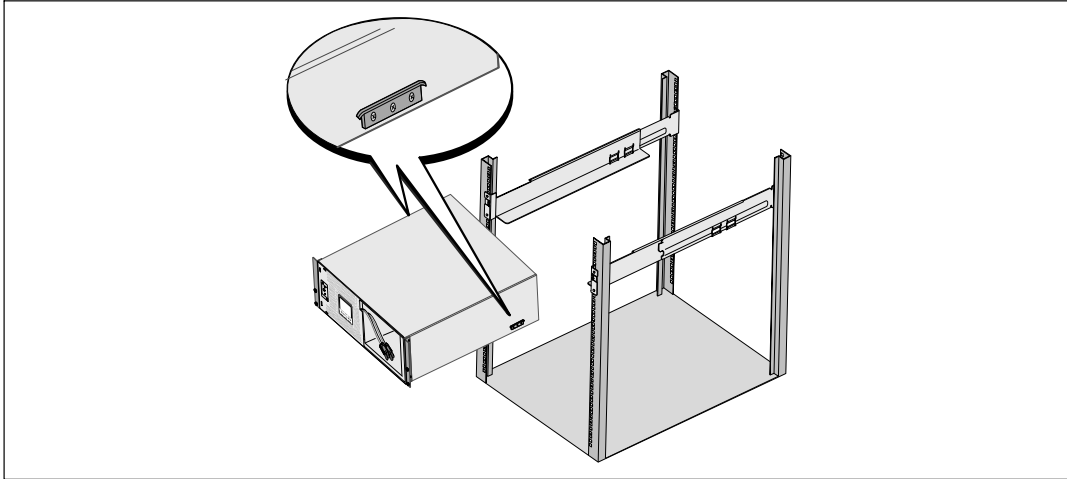

Figure 12. Installing the Cabinet
- 6 Slide the cabinet into the rack (see Figure 12). Repeat for any additional cabinets.